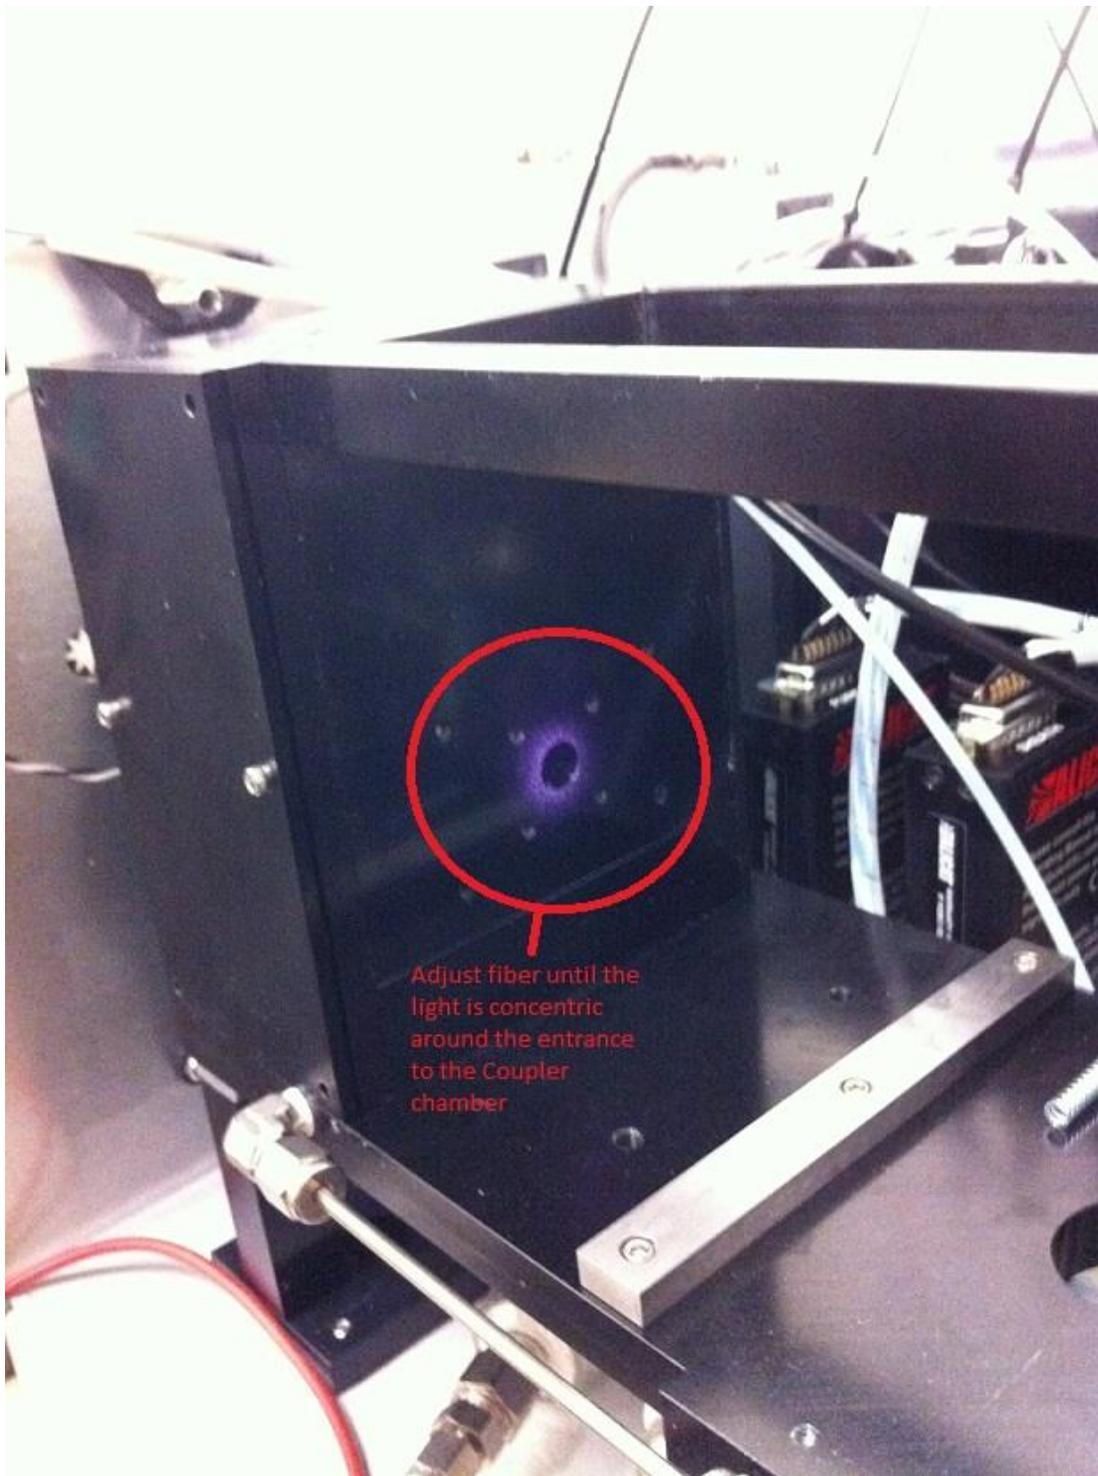

Figure 32: Light Concentric Around Entrance to Coupler Chamber
- 4.58. By moving the card into and out of the beam, you can see where the light exiting the crystal chamber hits the coupler chamber. You may need to move the card closer to the YAG chamber to see the fluorescence on the card. If this is the case, you may need to adjust the Z position of the mode match barrel, or check to see if the light is making it out of the crystal chamber (it may be hitting the wall inside). If the light is not centered on the hole in the coupler chamber, as shown in Figure 32, the fiber X-Y position will need to be adjusted. Note: Figure 32 shows a Blue color to the laser light, but the light is actually Red/Infra-Red. This image was taken with an Infra-Red sensitive camera.
- 4.61. With the locking screws loosened, turn on the laser again, and make adjustments to the vertical and horizontal position (X-Y) of the fiber with a 1.5mm Allen wrench. Continue until the light is centered on the entrance to the coupler chamber Figure 32. Tighten the two locking screws a little bit at a time, alternating between the two, until they are firmly secured but not overly tight. Turn off the laser.